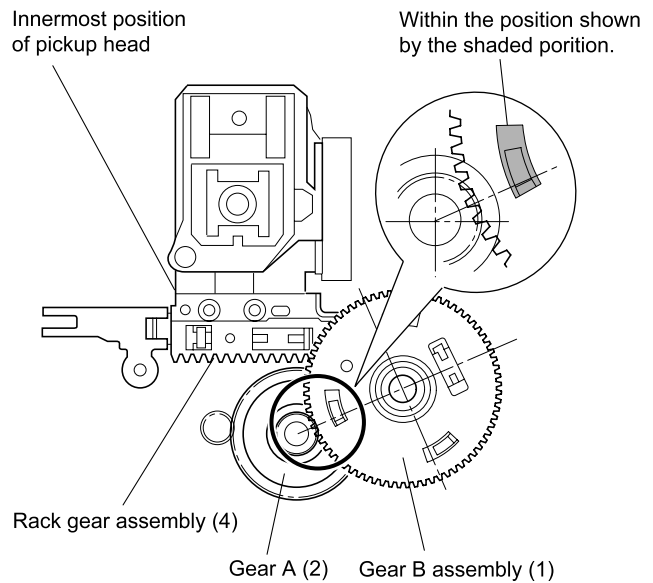

Fig. 2-1-22
3. Fit the positioning holes on the upper gear and lower gear of the gear B assembly (1) and mount on the pickup mechanism assembly with the phase matched. At this time, note that the phase of the gear B assembly (1) and the gear A (2) shows the status in the Fig. 2-1-22.